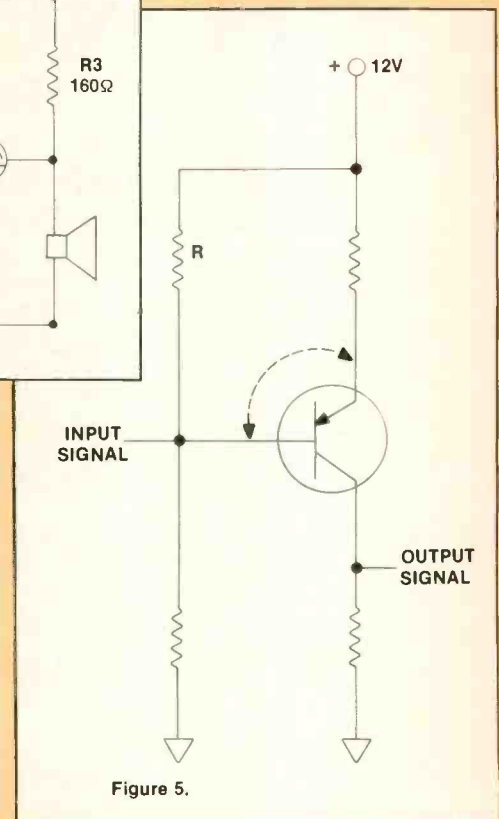

Figure 5.
8. An emitter-base short of the transistor in Figure 5 is shown with a broken line. The collector voltage should be
9. The amplifier in Figure 5 is connected in a
10. If the resistor marked R in the circuit of Figure 5 is open, the transistor will be